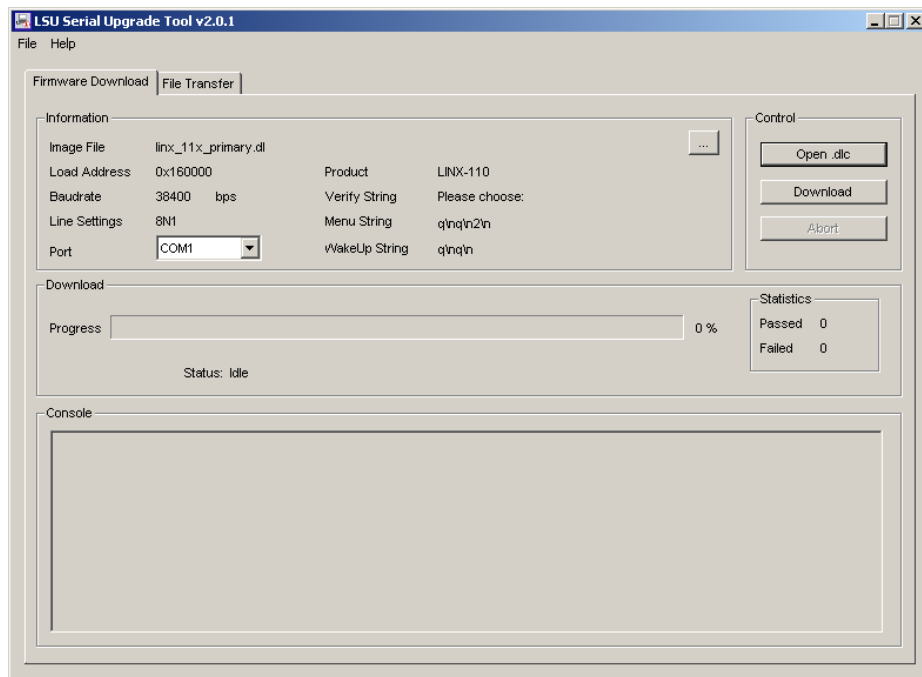

Figure 253: LSU Serial Upgrade Tool in Idle Mode.
1. Double click on the *.dlc file that comes with the new firmware package. This should start the LSU Tool and load the firmware image referenced in the dlc file. Please note that the dlc file and the dl file must be stored in the same folder. The start window of the LSU tool is shown in Figure 253.